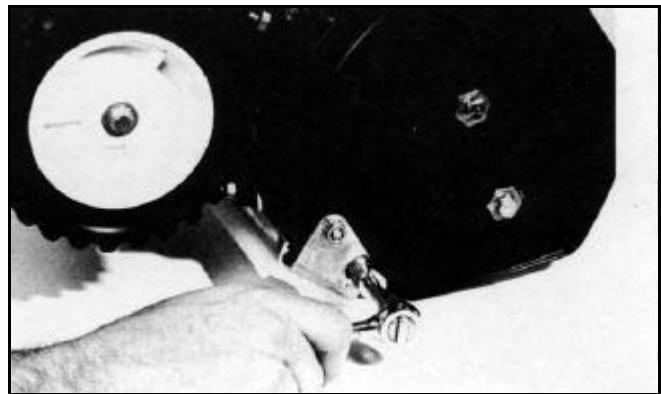

Figure 165
1. Loosen the four scraper support bracket mounting bolts, and adjust the skid so that there is 1/16" to 1/8" clearance between the rotor blades and the leading edge of the skid (Figure 165).